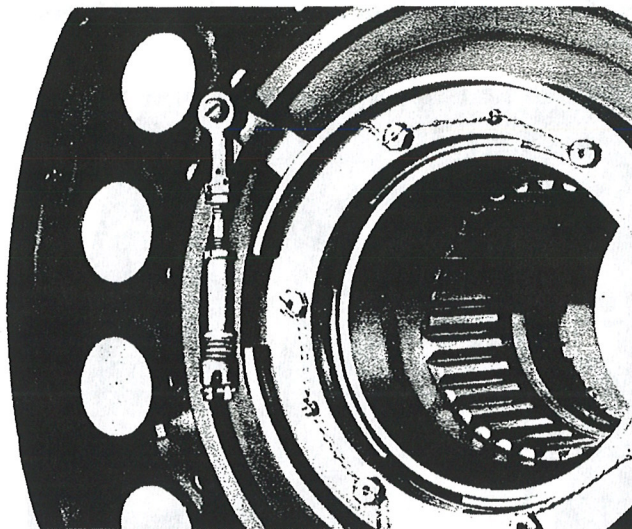

Figure 24—Install Control Linkage
- q. Connect the propeller control linkage. (See figures 24 and 25.) Make certain that the maximum rpm position of the control lever arm is attained and that at least 1/16 inch (maximum, 1/8 inch) spring-back is obtained at the control quadrant with the control in the